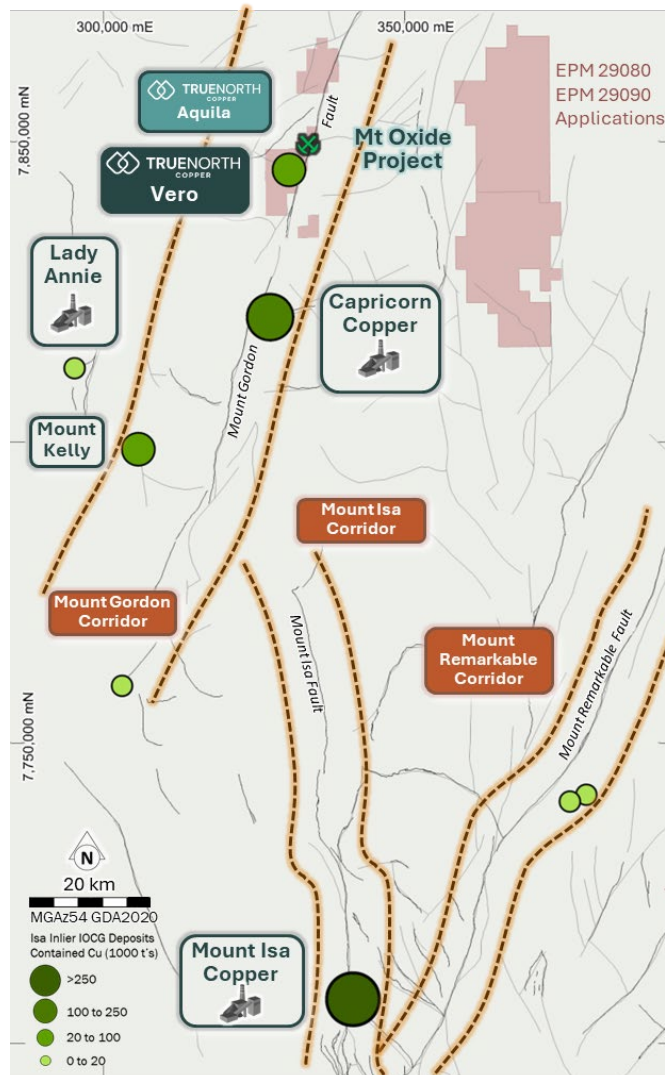

Figure 1. Location of TNC’s Mt Oxide Project and Aquila Prospect within the mineralised corridor that hosts the Vero and Capricorn Copper Deposits
The assay results from the first three (3) of five (5) drillholes at the Aquila Prospect, which is located over 4km northeast of TNC's existing Vero Resource (15.03Mt @ 1.46% Cu, 10.59 g/t Ag (Indicated and Inferred), 9.15Mt @ 0.23% Co (Measured, Indicated and Inferred))¹, has revealed significant mineralisation, confirming the substantial copper-cobalt-silver potential of the broader Mt Oxide system (Figure 1).